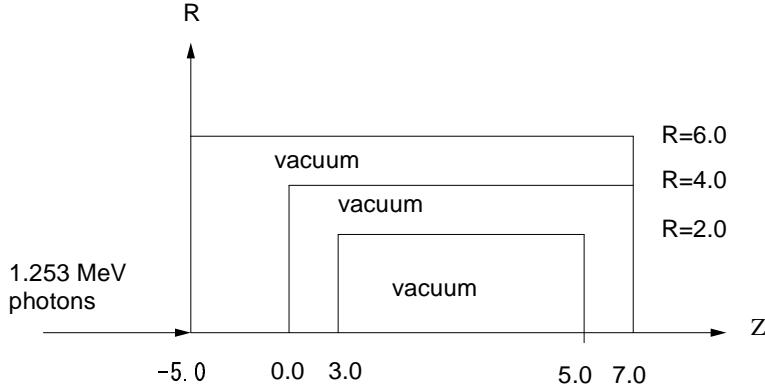

Figure 1: Geometry of `ucsouce.f`
Geometry used in `ucsouce.f` is a cylindrical geometry with cg as shown in Fig.1. All regions are set to vacuum (0) to test source. 1.253 MeV photon pencil beam enters on the cylinder from Z=-5cm along the Z-axis.